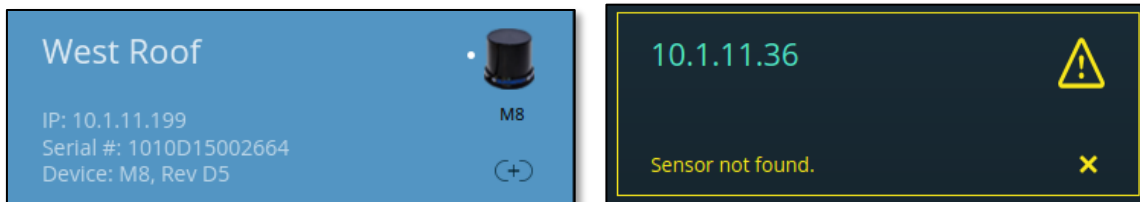

Figure 24. Dashboard Tab: Manual Search Results: Online (left) or Not Found (right)
4. Press the **Enter** key or click in the **Adding a new sensor** panel, to activate the search for the sensor with that IP address. See Figure 24. Dashboard Tab: Manual Search Results: Online \(left\) or Not Found \(right\).